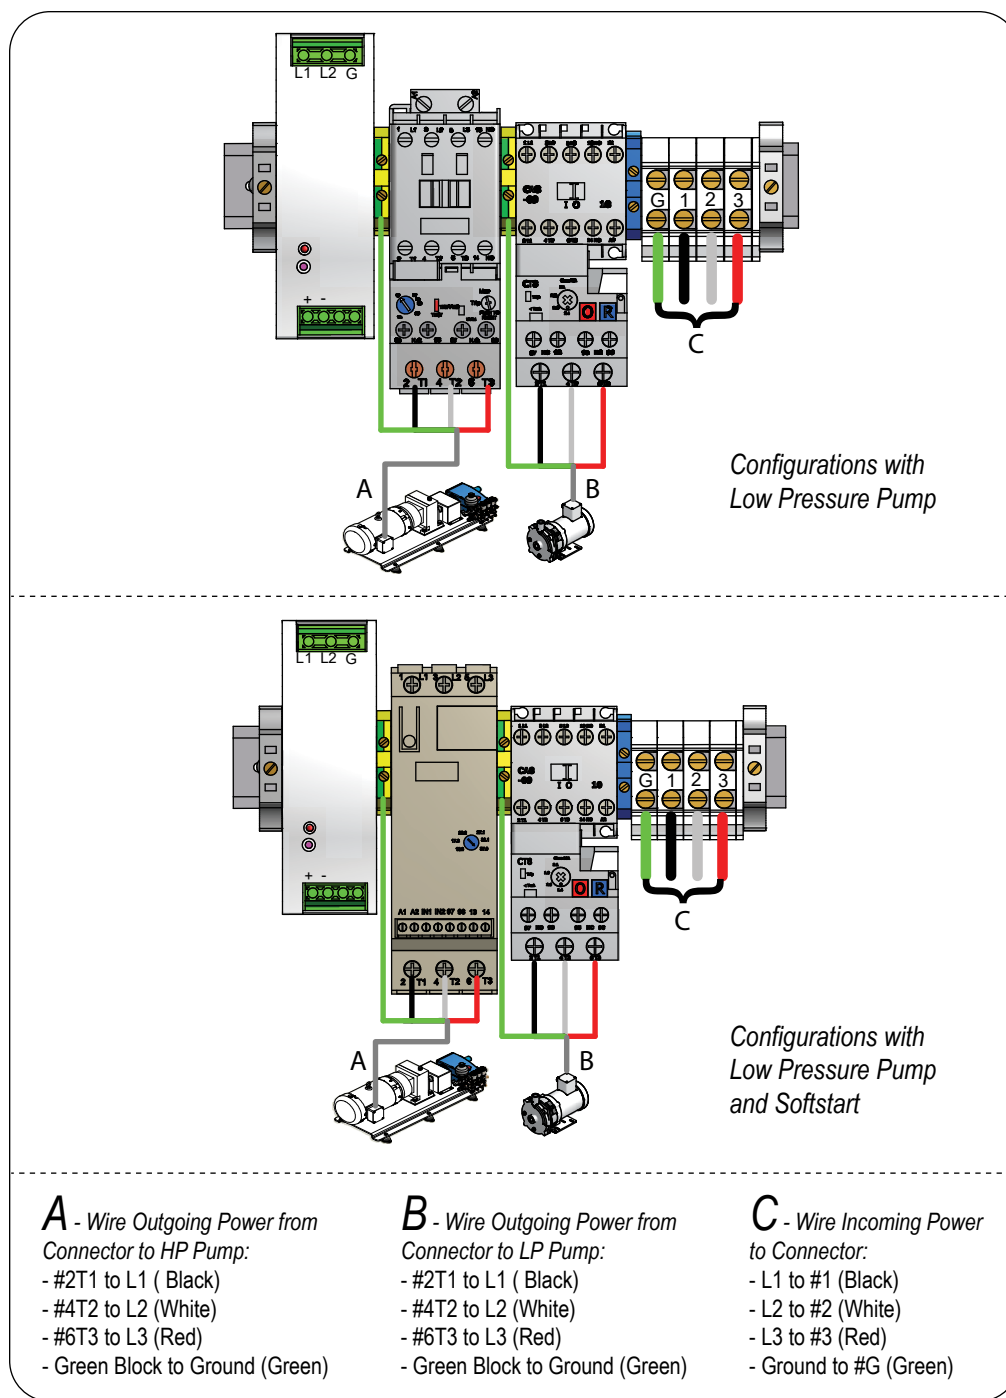

Figure 15: Wiring at the Contactor Block
See *Figure 15* on page 45.
- #1, #2, #3, and #G for three phase power (Figure 15 shown above)